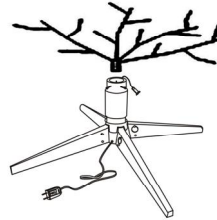

Fig.4
4. Carefully insert tree into the stand and adjust so pole is firmly inserted into stand and screw is tightened. (See Fig.4)